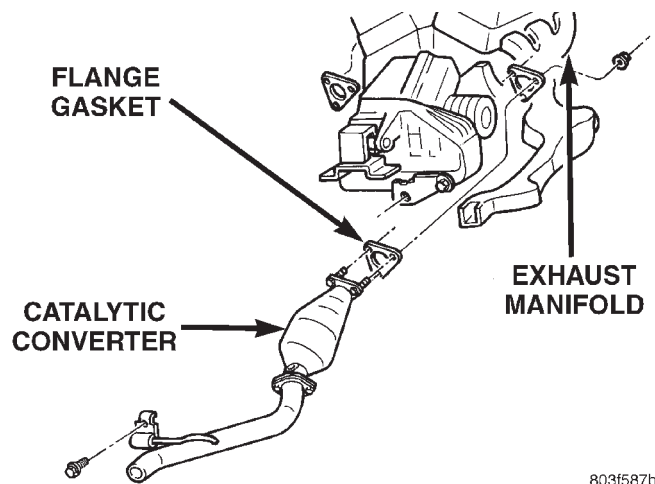

Fig. 11 Exhaust Manifold Flange and Down Pipe Hanger
- (1) Install converter to exhaust manifold using new gasket (Fig. 11). Torque flange bolts to 26 N·m (19 ft. lbs.)
- (2) Install exhaust system.
- (3) Install down pipe hanger bolts. Torque to 61 N·m (45 ft. lbs.)
- (4) Install oxygen sensor. Torque to 27 N·m (20 ft. lbs.)
- (5) Lower vehicle.
- (6) Connect Battery.
- (1) Install converter to exhaust manifold using new gasket (Fig. 11). Torque flange bolts to 26 N·m (19 ft. lbs.).
- (2) Raise vehicle on hoist.
- (3) Install down pipe to converter bolts.
- (4) Lower Vehicle.
- (5) Install oxygen sensor. Torque to 27 N·m (20 ft. lbs.).
- (6) Install air cleaner housing and air inlet hose at throttle body.